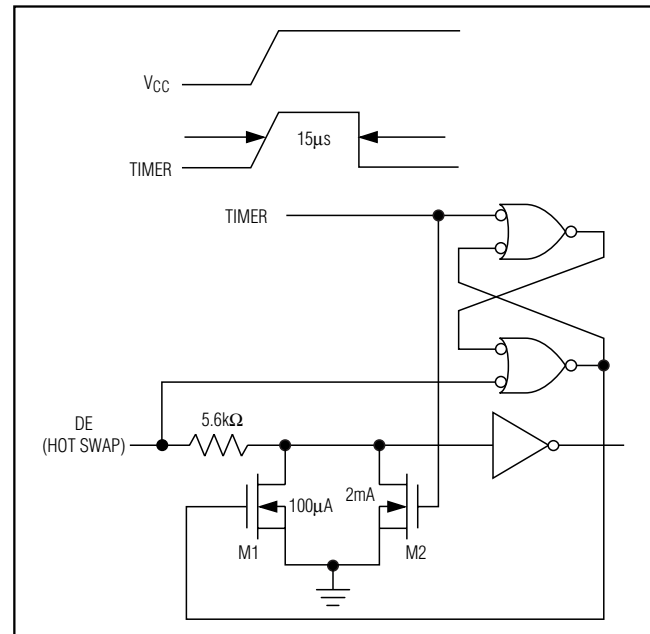

Figure 10. Simplified Structure of the Driver Enable Pin (DE)
At the driver-enable input (DE), there are two NMOS devices, M1 and M2 (Figure 10). When VCC ramps from zero, an internal 15 μ s timer turns on M2 and sets the SR latch, which also turns on M1. Transistors M2, a 2mA current sink, and M1, a 100 μ A current sink, pull DE to GND through a 5.6kΩ resistor. M2 pulls DE to the disabled state against an external parasitic capacitance up to 100pF that may drive DE high. After 15 μ s, the timer deactivates M2 while M1 remains on, holding DE low against tri-state leakage currents that may drive DE high. M1 remains on until an external current source overcomes the required input current. At this time, the SR latch resets M1 and turns off. When M1 turns off, DE reverts to a standard, high-impedance CMOS input. Whenever VCC drops below 1V, the input is reset.